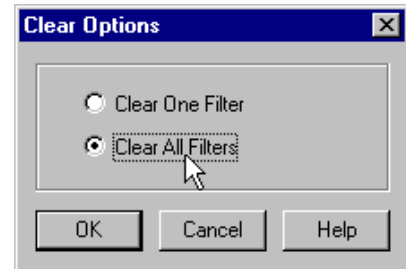

Figure 48 – Clear Options Dialog
2. The Clear Options dialog appears, as pictured to the right in figure 48.